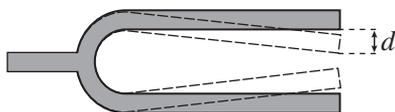

Figure 2
- 2 The tuning fork shown in **Figure 2** is labelled 512 Hz and has the tip of each of its two prongs vibrating with simple harmonic motion of amplitude 0.85 mm.
- (a) (i) **Figure 2** shows the extreme positions of the prongs. How is the distance marked d related to the amplitude of the prongs?